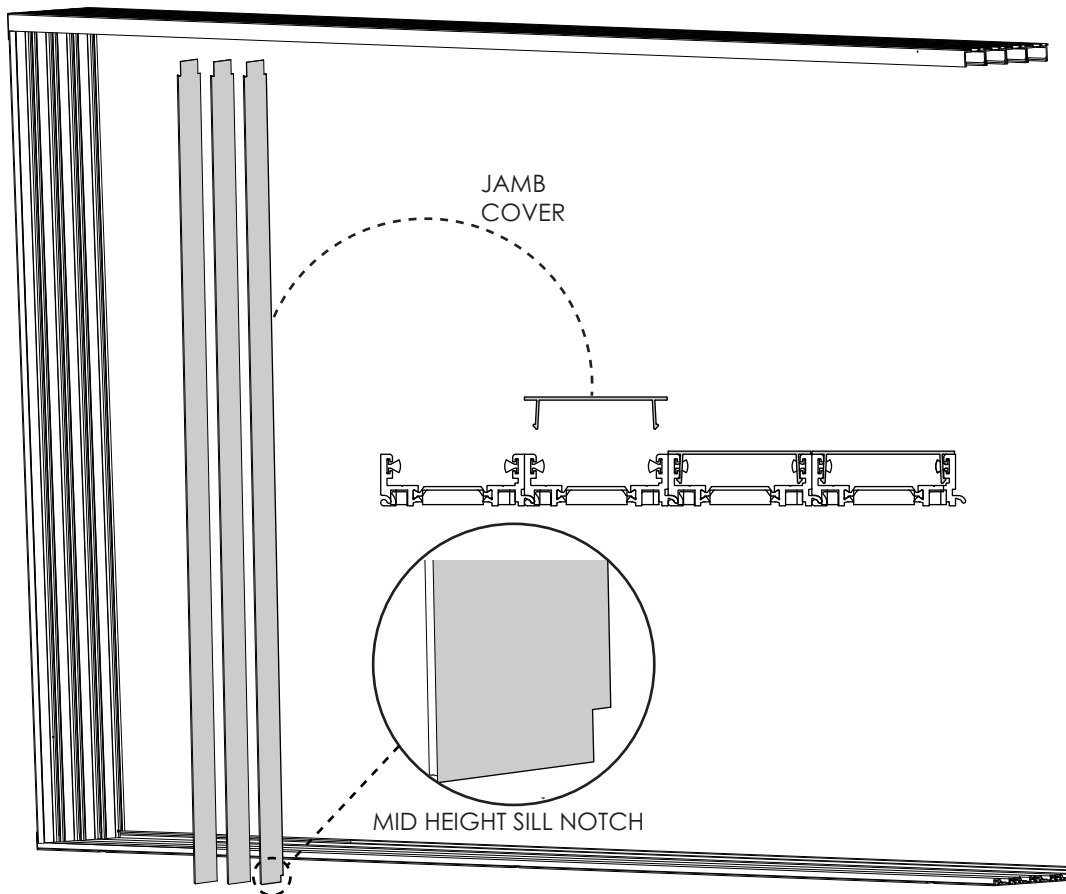

FIG 62
- Place Side Jamb Cover into groove located in the Jamb Track. **[FIG 62]**